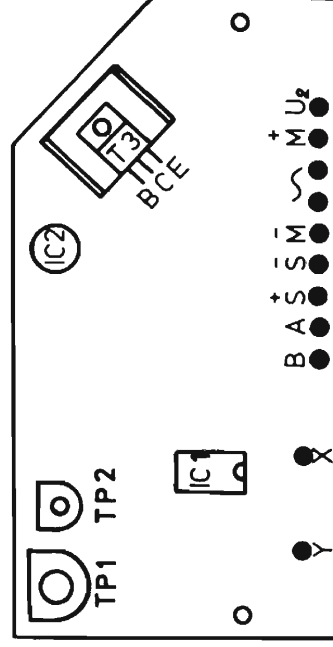

Fig. 2
c) **Adjustments:** The voltmeter should be connected between M (negative) and point X on the printed circuit board (fig. 2). If the unit has turned itself off during section (a), turn trim-potentiometer TP 2 (fig. 2) anti-clockwise to prevent this recurring. Allow the tonearm to play the complete section and observe the highest voltage on the voltmeter (approx. 0.8 to 2.2 V). Move the positive terminal to point Y (fig. 2) and with the pick-up arm in its rest, adjust TP.2 until a voltage 0.5 V higher than that previously observed is obtained (approx. 1.3 to 2.7 V).
All voltages are measured to point M— (fig. 2) by a voltmeter, the input-resistance of which is greater than 1 M ohm per volt.